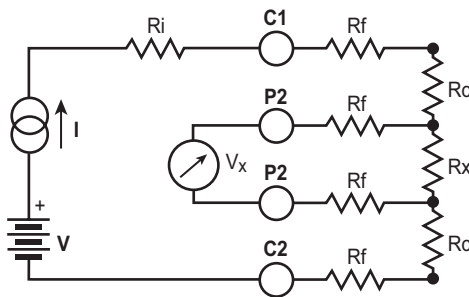

Figure 4-2
A diagram of the measurement system is shown in Figure 4-2. The Model 6250 generates a current (I) from the internal voltage source (V). A voltmeter measures the voltage drop V_x at the Kelvin probe contact points to the resistance to be measured (R_x) and displays the resistance measurement (R_x) directly using the formula $R_x = V_x / I$.